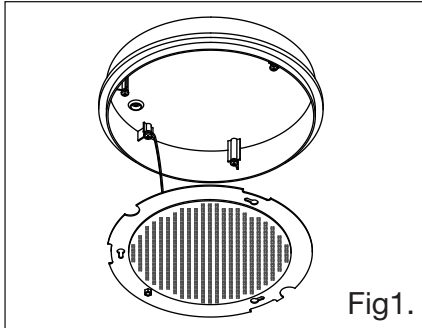

Fig1.
4. Twist the LED plate using the apertures provided and let the LED plate hang suspended. See Fig 1.